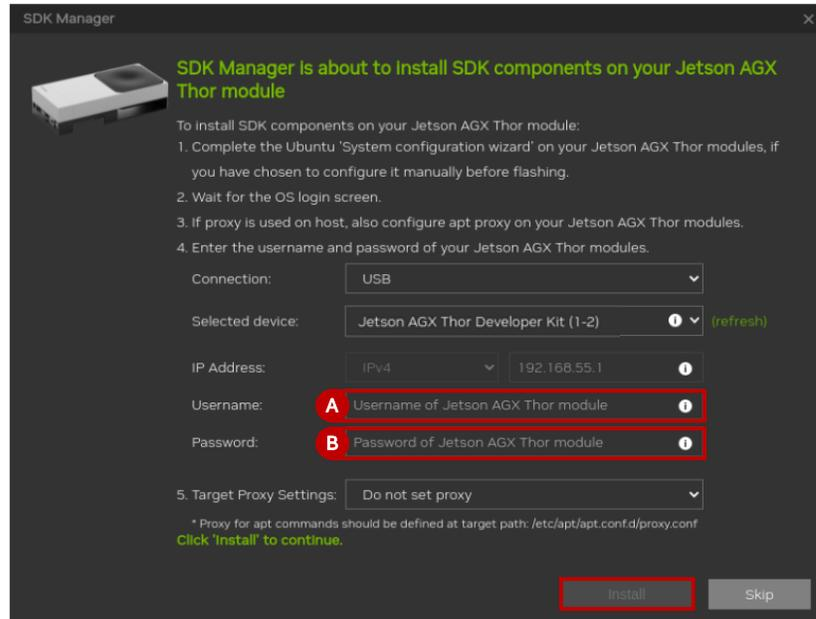

Figure 6.23. Post-flash Installation Dialog
14. Allow the SDK Manager to detect the device and begin the initial setup process. When the AGX Thor reaches the operating system login screen, enter the created **username** (letter A) and **password** (letter B) as shown in Figure 6.23. Click **Install** to start installing the SDK component.